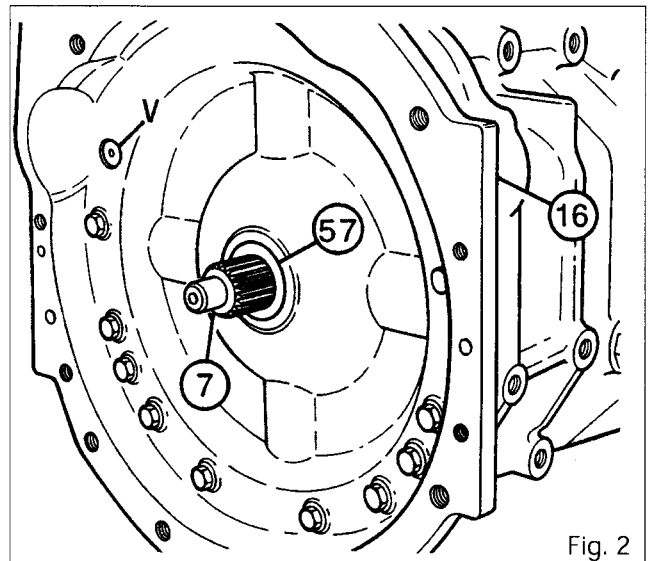

Fig. 2
**Note : The countersunk head of bolt "V" must be correctly positioned (Fig. 2).**
**B. Removing and refitting the seal (Fig. 2)****Removal**
14. Extract the seal (57).